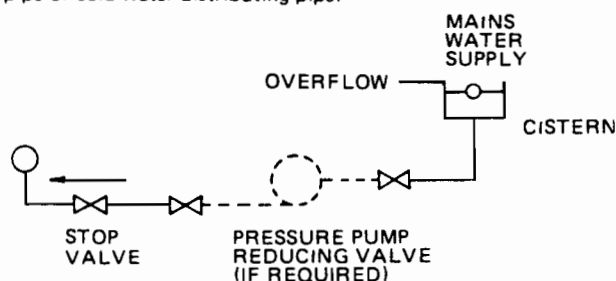

FIG. 5 CISTERN FILLING METHOD
(1) **Cistern Method** (see Fig.5)
(2) **Booster Pump Method** (see Fig.5)